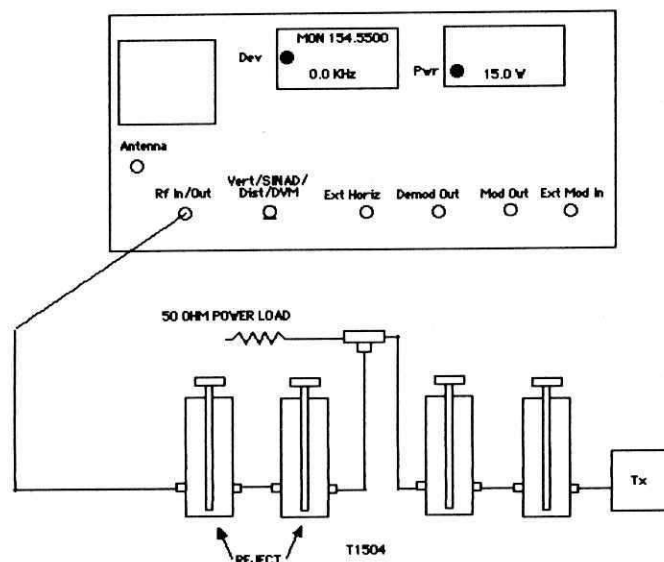

FIGURE 5.12 – DUPLEXER ADJUSTMENT SETUP; REJECT NOTCH ON RECEIVE LEG
1. Connect the service monitor's "RF In/Out" to the in-service duplexer as shown in figure 5.12. Disconnect the cable at the duplexer receiver port that comes from the receiver. Move the monitor's "RF In/Out" cable from the duplexer antenna port to the duplexer receiver port. Connect a power-rated dummy load to the duplexer antenna port.